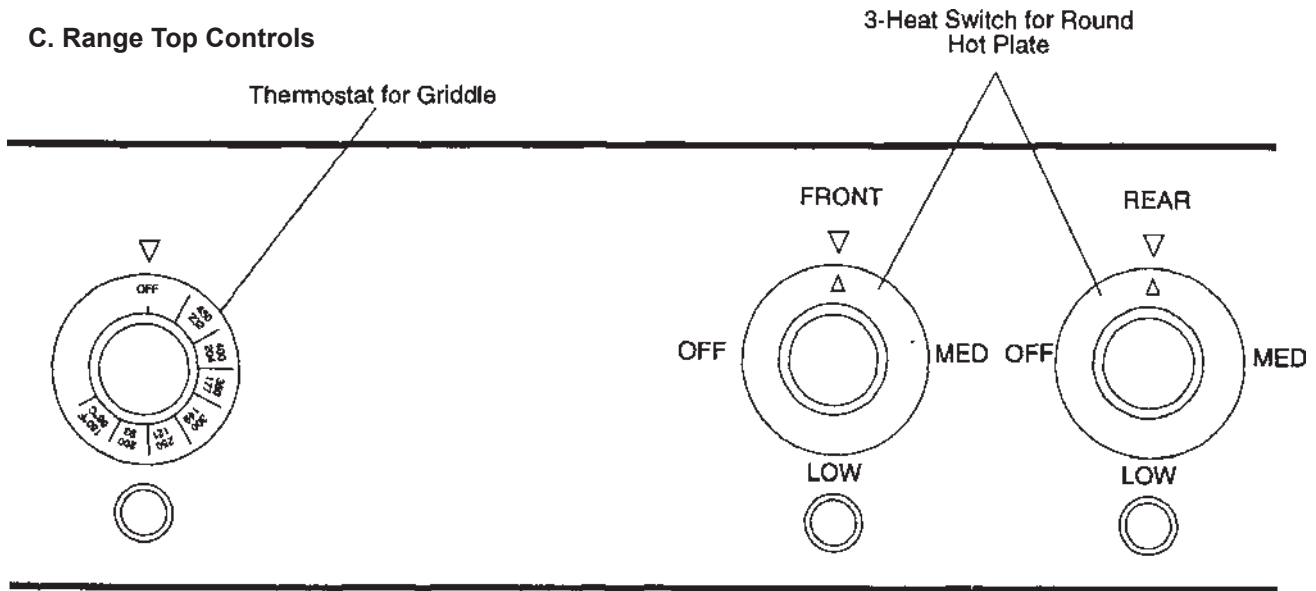

Figure 3-4
1. Griddle is controller by a Temperature Thermostat Control (see Figure 3-4) adjustable from 150°F to 450°F (65°C to 232°C). The griddle will preheat to 400°F (204°C) in 12 minutes. Adjacent green light remains on while heating elements are energized and griddle is coming up to set temperature.